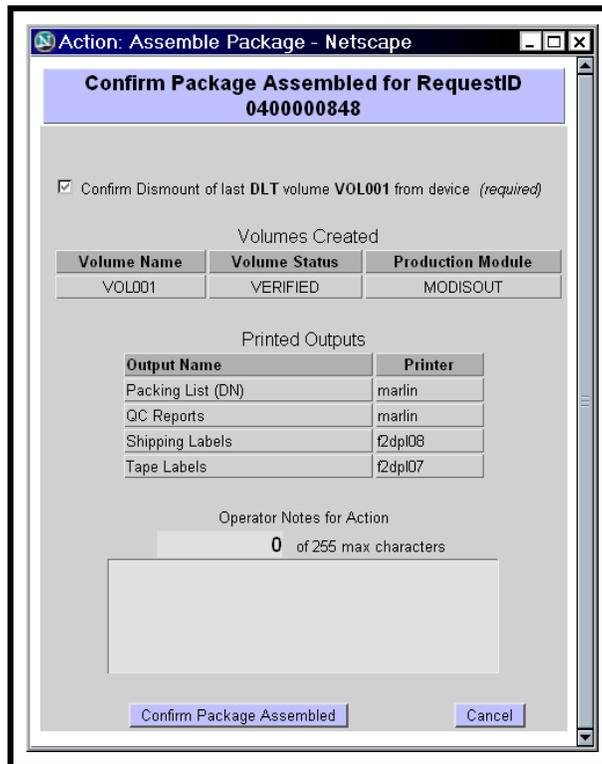

Figure 15.12-9. Confirm Package Assembled Page
The **Confirm Package Assembled** page (Figure 15.12-9) provides the full-capability operator with a means of confirming the assembly of the PMD package for shipment (i.e., the last volume of a request passed QC and has been dismounted). In addition, the full-capability operator has the option of annotating the action.
- A **Confirm Package Assembled** dialog box is displayed (Figure 15.12-9).